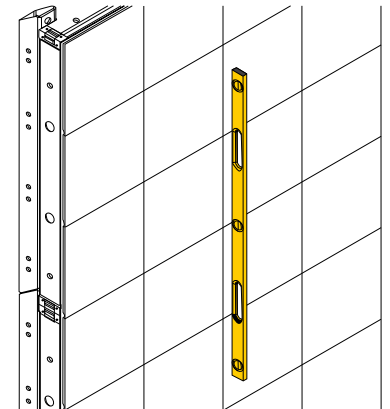

Figure 6: Ensuring Display Faces Are Flush
7. Place a 4' level at both ends and the middle of the display seam (when possible) to ensure the display faces are flush, plumb, and flat to all adjacent sections. Refer to **Figure 6 on page 2**. If they are no longer aligned, loosen the section interconnect hardware and repeat Steps 4-7.
6. Use a 4' level to ensure the display faces are flush and flat to all adjacent sections. Refer to **Figure 6 on page 2**.
6. Use a 4' level (when possible) to ensure the display faces are flush and flat to all adjacent sections. See **Figure 6 on page 2**.